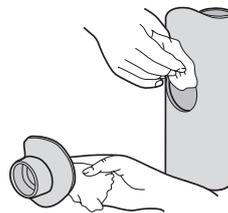

Fig.26d Cleaning mating surfaces
Step 4 – Clean all mating surfaces with 9101 Cleaning Fluid using a dry, clean, natural fibre cloth (NOT synthetic) (Fig.26d)